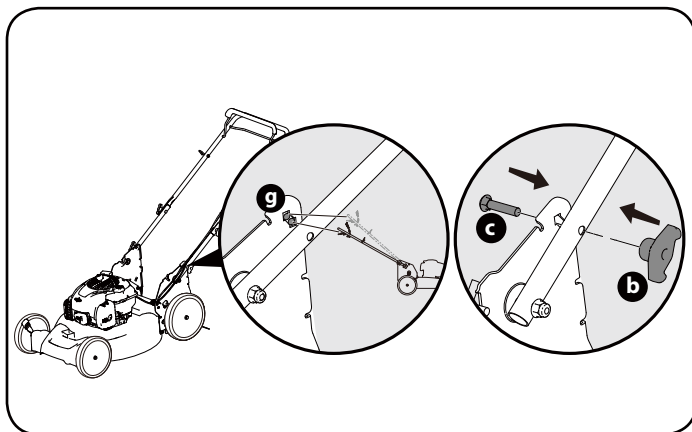

Figure 5
5. You can adjust the height of the handle by changing the holes (g) for the knobs (b) and bolts (c). (Figure 5)